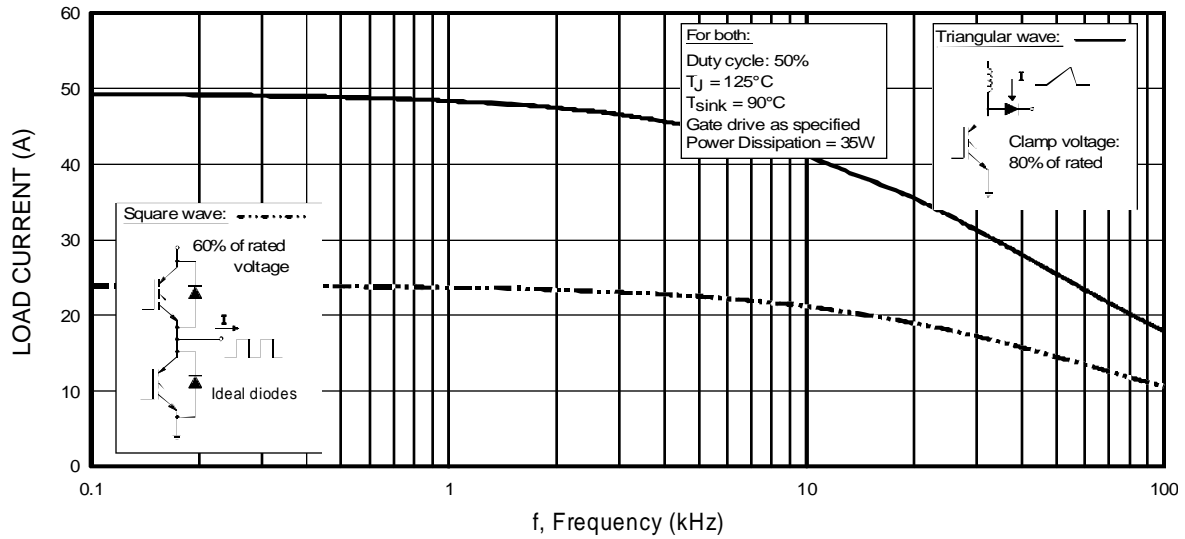

Fig. 1 - Typical Load Current vs. Frequency
- Optimized for high operating frequency (over 5kHz) See Fig. 1 for Current vs. Frequency curve